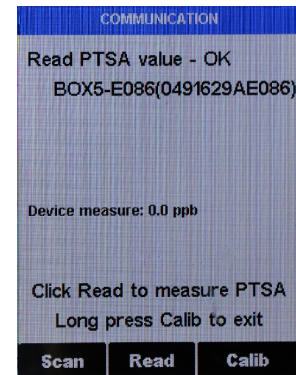

Figure 10.
9. When the connection is established, the SP-350 displays the latest PTSA measurement from the connected probe (Figure 10).